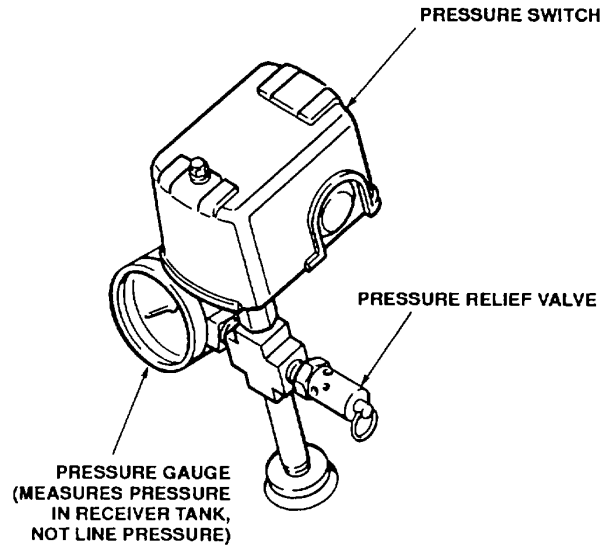

Figure 5. Pressure relief Valve and Pressure Switch
**WARNING:** For your safety, tank pressure is preset within the switch and must never be tampered with. This switch must not be adjusted by the operator, doing so will void the warranty. The pressure switch controls the level of air pressure in the receiver by automatically shutting down and restarting the motor, as required to maintain the factory preset pressure level. See Fig 5.
If the pressure switch does not shut down the motor when pressure reaches the preset level, this valve will pop open automatically to prevent overpressurization. To operate manually, pull the ring on the valve to relieve air pressure in the receiver. Pull the ring daily to test. See Fig 5.
This gauge measures the pressure level of the air stored in the receiver. It is not adjustable by the operator, and does not indicate line pressure. See Fig 5.
- 3 Reduce pressure in the receiver tank through the outlet hose You can also pull the relief valve ring and keep it open to relieve pressure in the receiver See Fig 5.